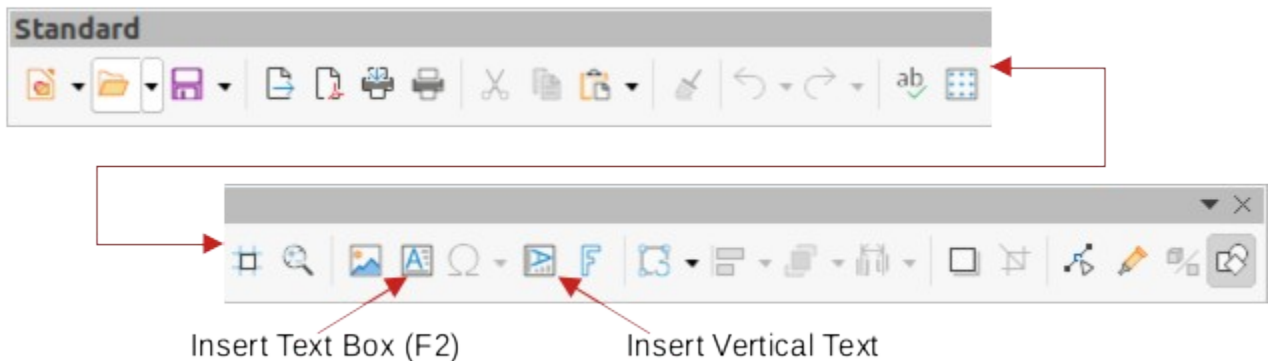

Figure 7: Standard toolbar with Insert Vertical Text added
- Click on **Insert Text Box** or **Insert Vertical Text** (if added) on the Standard toolbar (Figure 7), or Drawing toolbar (Figure 8).